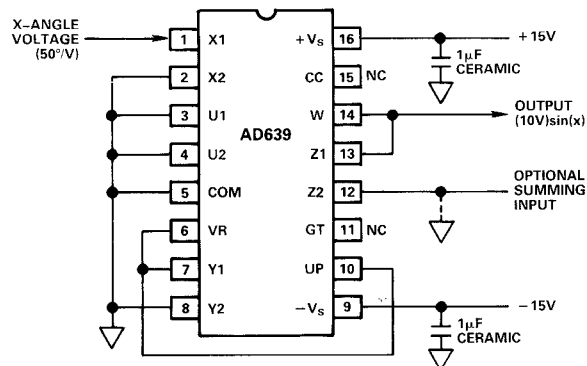

Figure 2. Connections for the Sine Mode with Amplitude Preset to 10V
The AD639 can generate either (1) a low-distortion continuous sinewave from a repetitive triwave input or (2) a high-accuracy sine function for use in computational applications. In most cases, the choice of preset or externally-controlled amplitude will make little difference to distortion or accuracy, and both methods are used in this section. In all of the *normal* modes, the Z2 input can be used either to sum a further signal to the output (or introduce an optional output offset trim). The denominator is set to unity by making $y = 90^\circ$, using the +1.8V output. Figure 2 shows typical connections. The 10V preset is selected, using V_r as a control input to UP, and the ideal output is $(10V)\sin(x)$. In practice, five basic types of error arise:
1. **X-angle scaling error:** The amount by which the angle generated for each volt of X-input differs from 50° . In triwave-to-sinewave (CW) applications this introduces odd-order harmonic distortion, and is indistinguishable from an incorrect triwave amplitude.